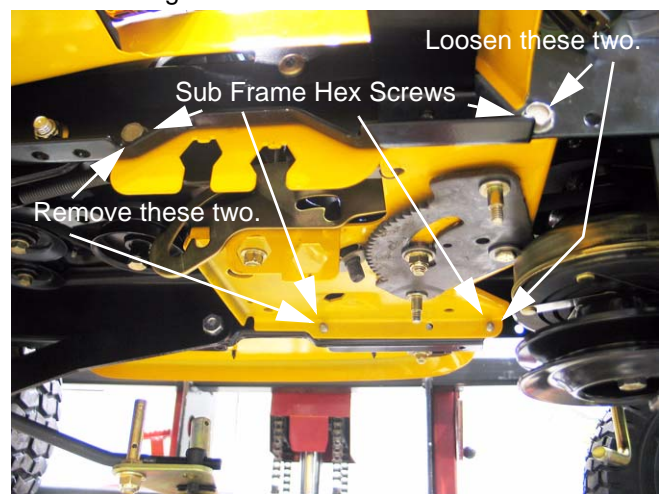

Figure 16.18
16.18. There are four screws holding the subframe to the tractor. Two on each side. Loosen the two front screws and remove the two rear screws. See Figure 16.18.